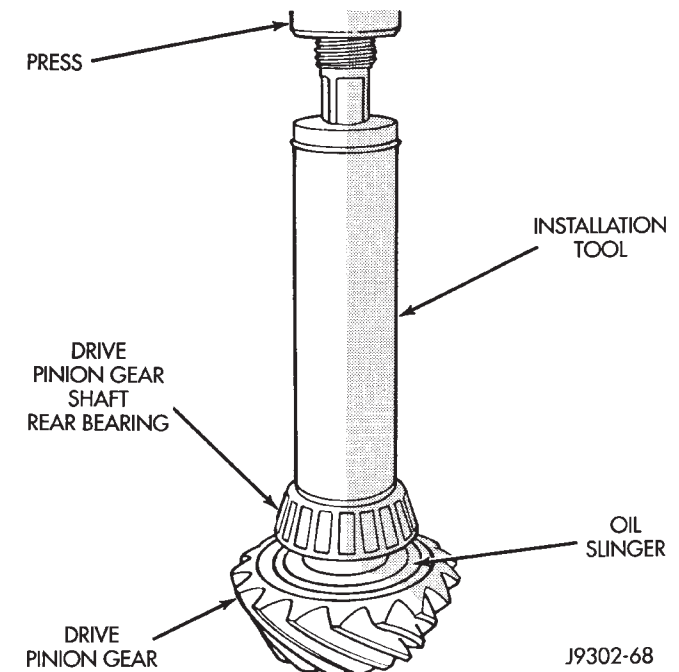

Fig. 51 Pinion Rear Bearing Installation
(3) Install the rear bearing and oil slinger on the pinion gear with Installer W-262 until completely seated (Fig. 51).